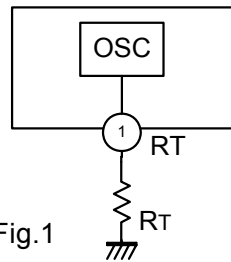

Fig.1
The oscillator of FA7703/04 generates triangular waveforms by charging and discharging the built-in capacitor. Any desired oscillation frequency can be obtained by setting the value of the resistor connected to RT terminal (Fig. 1).
**(1) Setting oscillation frequency**
As described in “(2) Oscillator” of “Description of each circuit”, any desired oscillation frequency can be obtained by setting the value of the resistor connected to RT terminal. (Fig. 1) The desired oscillation frequency should be set between 50kHz and 1MHz. The oscillation frequency to RT can be obtained from the chart of “Oscillation frequency vs. timing resistor” characteristic curves or by calculating with the formulas below.